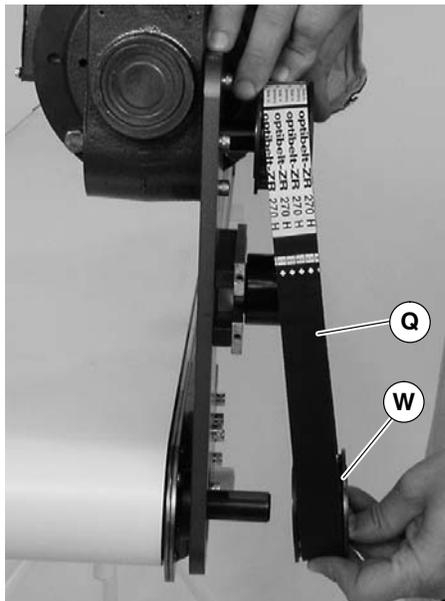

Figure 13
3. Remove timing belt (Q of Figure 13).
**NOTE:** If timing belt does not slide over pulley flange, loosen driven pulley taper-lock screws (W of Figure 13) and remove pulley with belt (Q). For re-installation, see steps 6 and 7 on beginning on page 6.